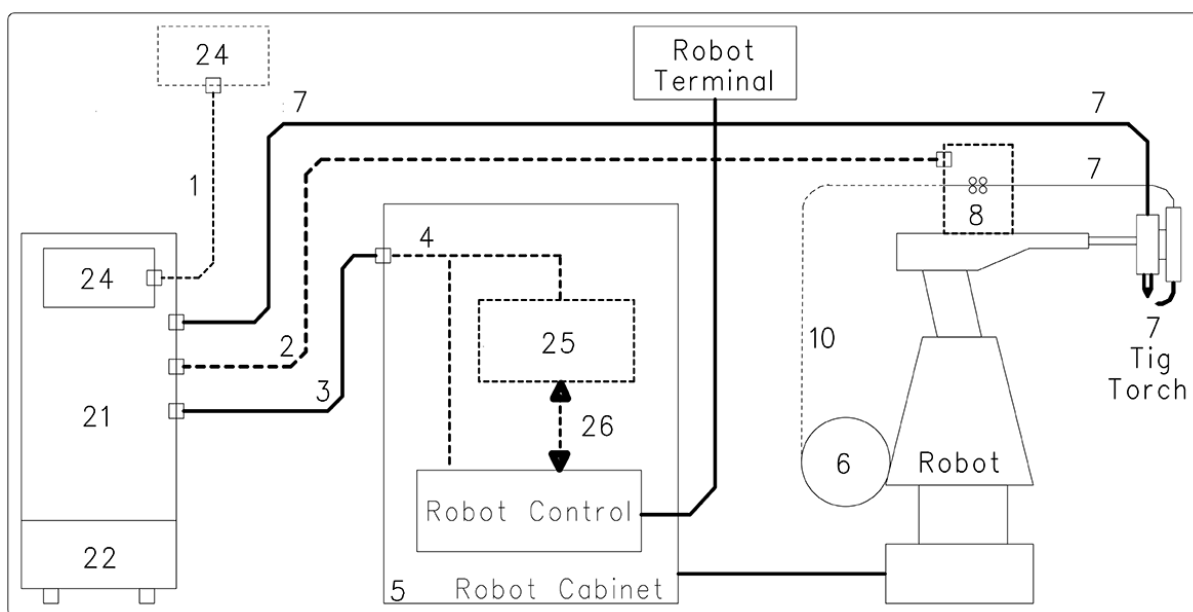

fig. 2
It comprises a Power Source, with integrated Control Panel, a Cooling Unit, a Wire Feeder Unit (optional) and, if necessary, a Robot Interface (fig. 2).
NOTE: If the Robot Control (fig. 2) has the CANopen DS401 communication line type, the interface (25) and the cable (26) are not necessary.
3.1 **Installation (fig. 2).**